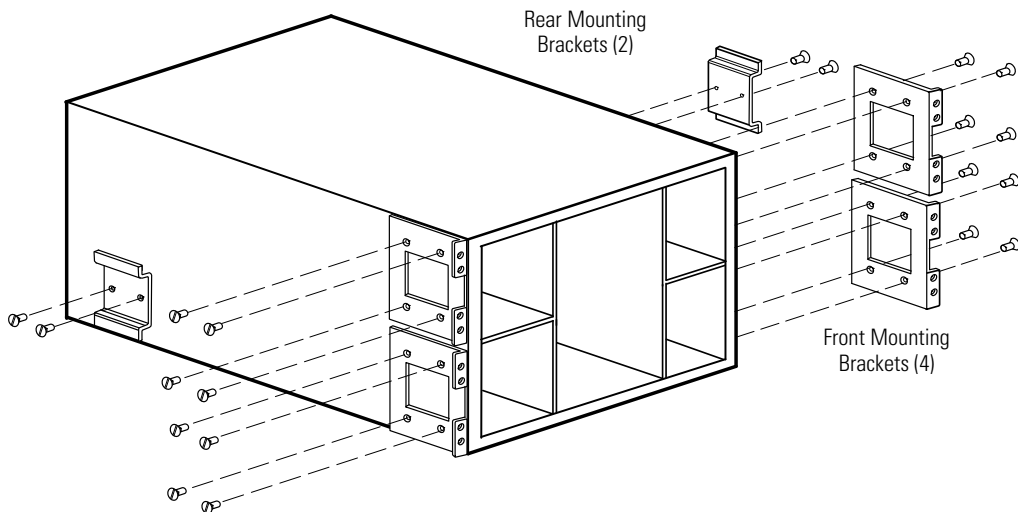

Figure 20. Installing the UPS Front and Rear Mounting Brackets
11. Align the four front mounting brackets with the screw holes on the sides of the UPS and secure with 16 supplied M4 flat-head screws (see Figure 20).